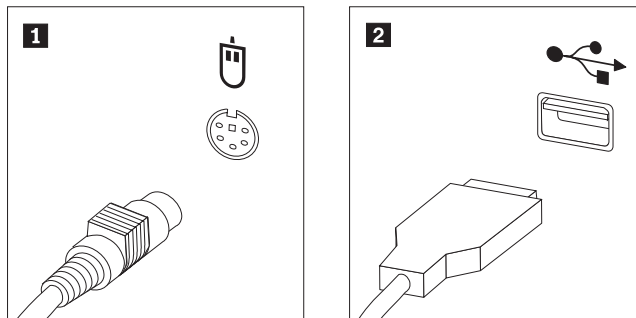

Figure 36. Mouse connectors, standard and USB
3. Locate the mouse connector. See Figure 36.